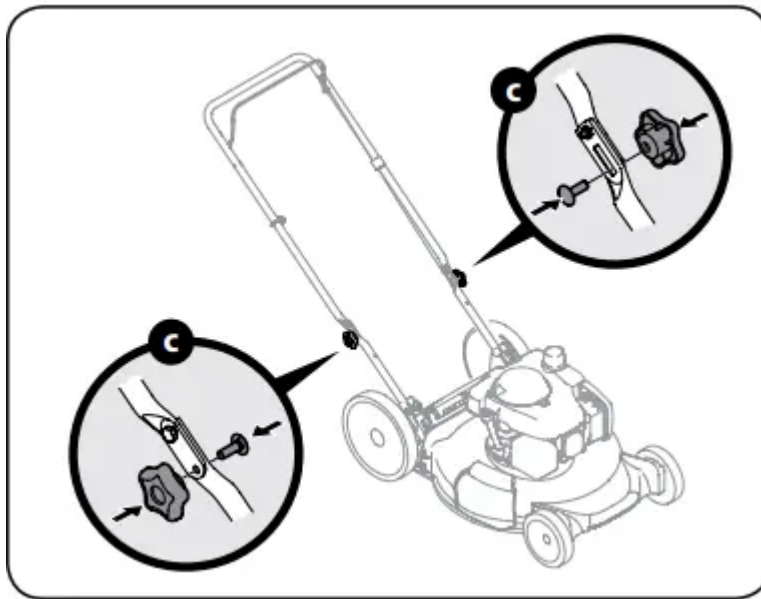

Figure 5
c. Reattach wing nuts and carriage bolts removed in Step 1 into lower holes of handle as shown in Figure 5.